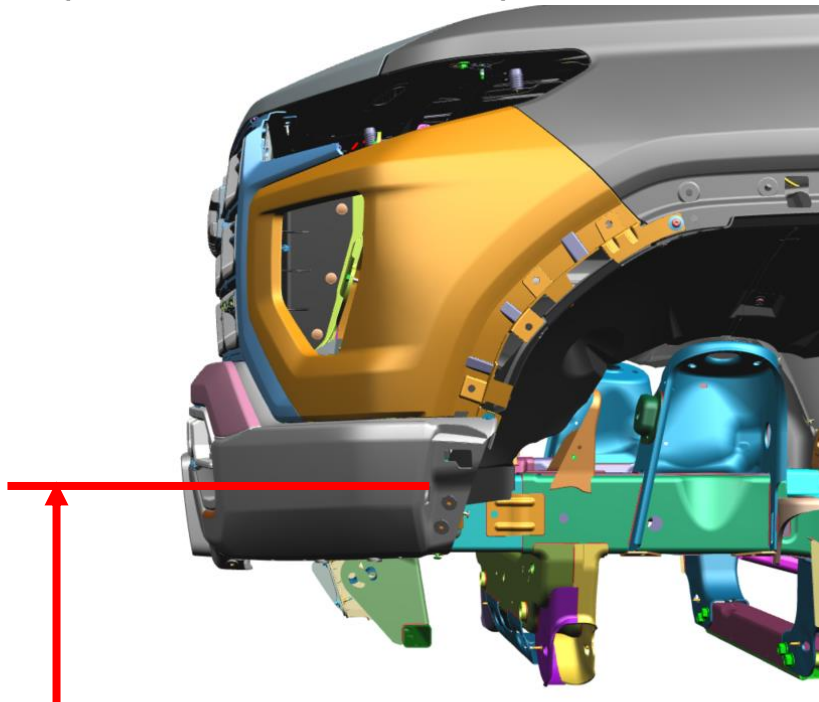

Figure 1 – Bumper Side-view
- a. Height of AEV frame brackets – Fig. 1